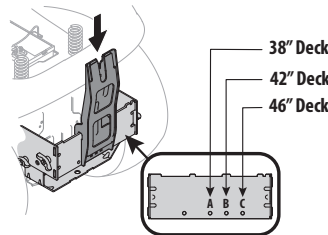

Figure 9
1. Install the vertical bagger support (683-04519C) onto the mounting assembly on the tractor by hooking it over the cross mounting bracket as seen in Figure 9.
2. Align the vertical bagger support with the mounting hole that best suits the deck size of your tractor. See Figure 9.